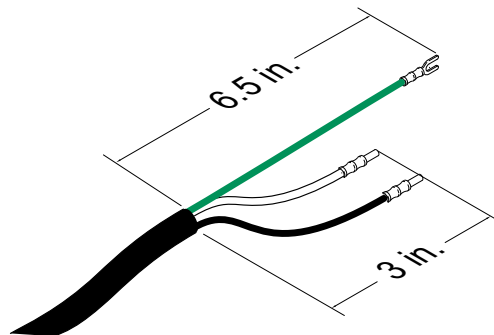

FIG. 13: Power Cord
1. Turn the Disconnect Switch (AZ) OFF.
- Add ferrules as necessary. See FIG. 13.